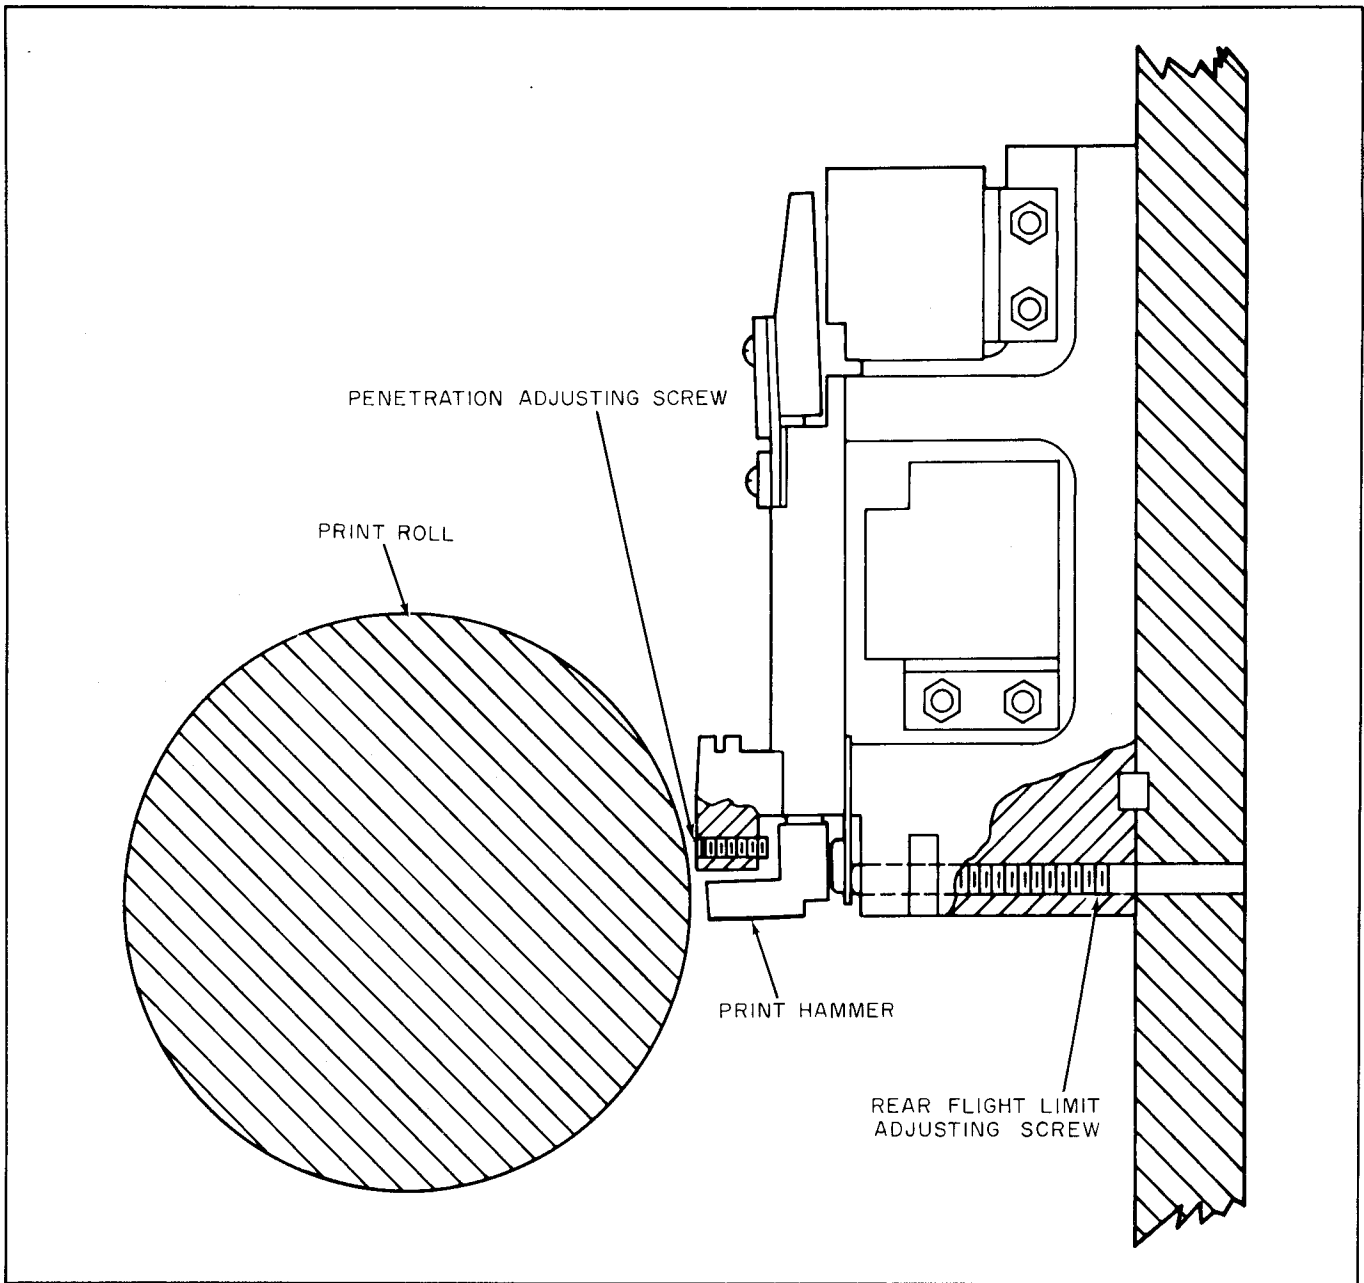

Figure 7-6. Penetration and Flight Time Adjustments
are printing medium dark. (b) Bring in the overall penetration (Figure 7-6) until the reference modules
- (b) Turn the penetration adjusting screw (Figure 7-6) clockwise approximately 5 degrees.
(a) Turn the rear flight limit adjusting screw (Figure 7-6), accessible through the module mounting plate, counterclockwise approximately 5 degrees.